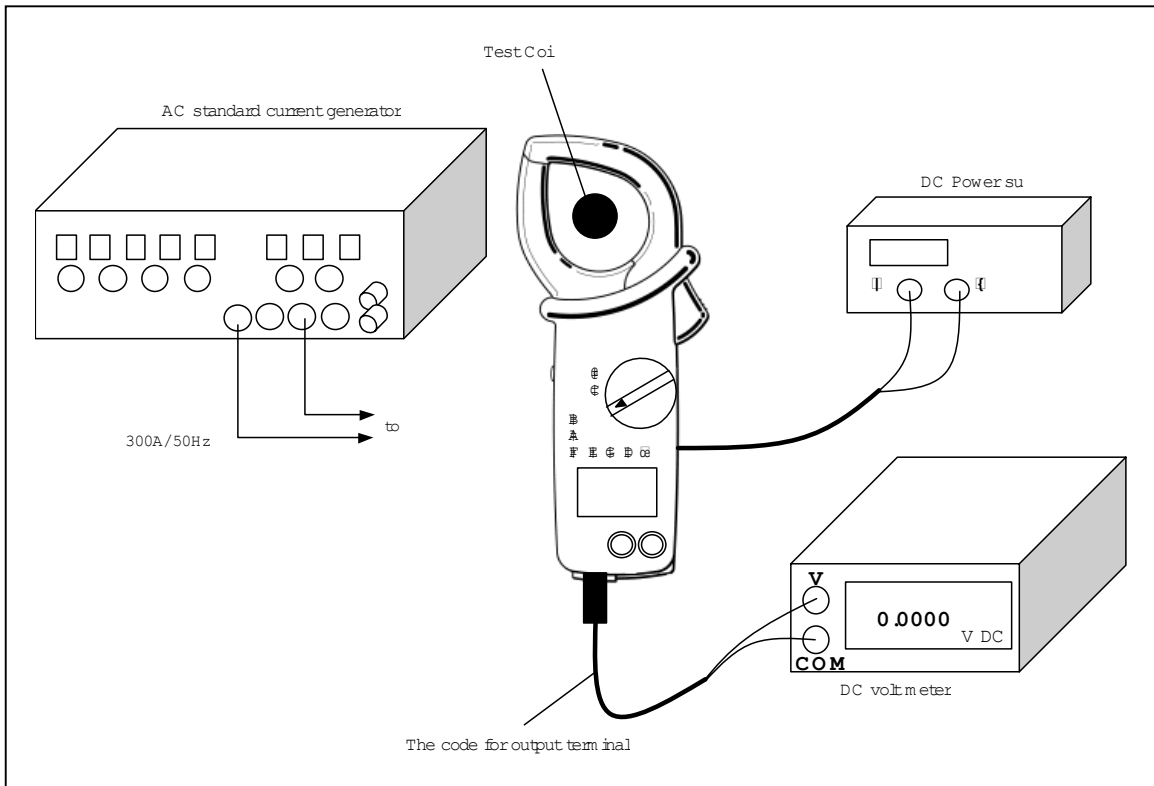

Figure 3. ACA (Normal Mode) Calibration
2. Connect the wires according to the figure 3. Set the indication of the voltmeter to 0.0000V by turning the VR4.
4. Clamp the test coil according to the figure 3. And generate the AC current 300A/50Hz.